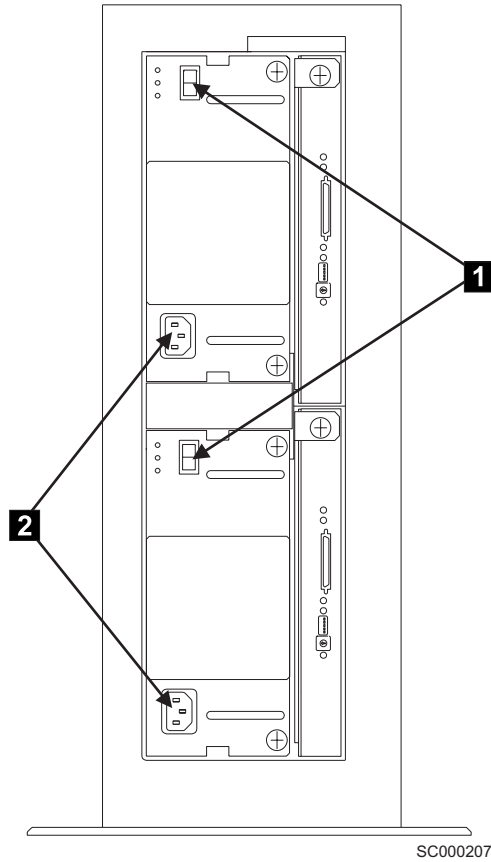

Figure 14. Removing power from a 2104 Model TS4
2. At the back of the 2104 Model TS4, set the dc on/standby switch **1** of each fan-and-power-supply assembly to standby. See Figure 14 on page xxvii.
3. Remove the power cables **2** from the electrical power outlet and from the back of the 2104 Model TS4. See Figure 14.